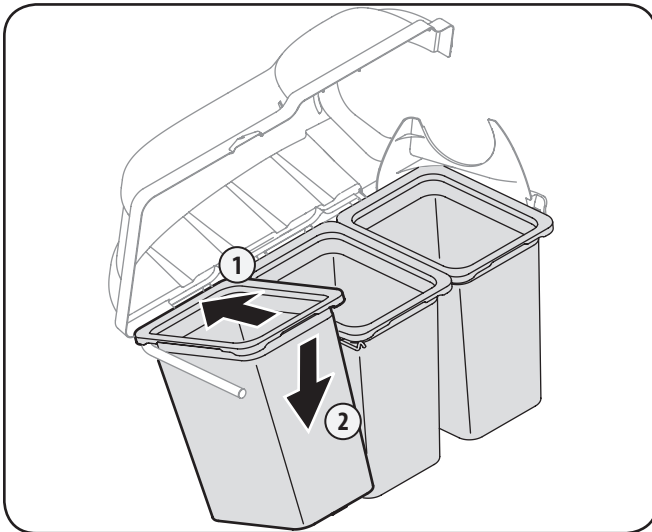

Figure 4-13
- Install the bag assemblies onto the bag support brackets by inserting the front edge in first, as seen in Figure 4-13, and setting the back edge down until it fits into the assembly.